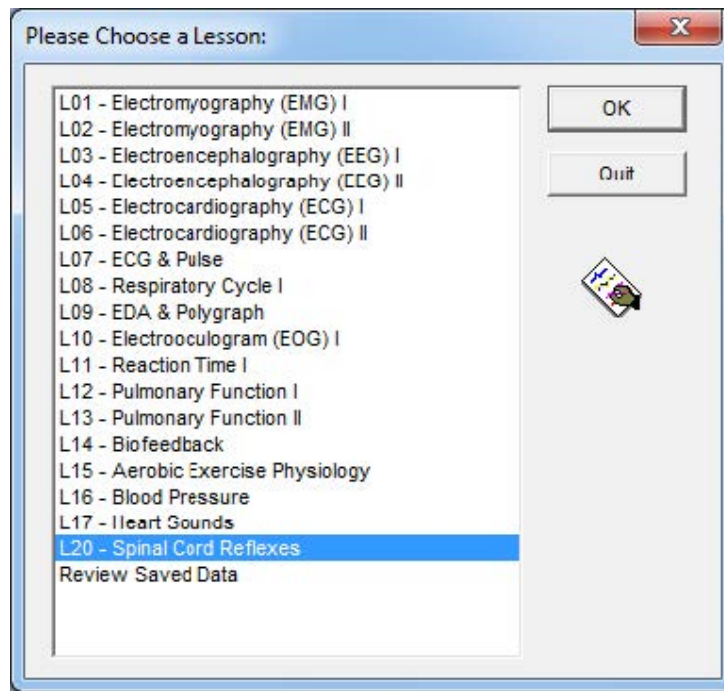

Figure 3: Select lesson L20 - Spinal Cord Reflexes
1. Open BIOPAC student lab lessons software and select *L20* (see Fig. 3).